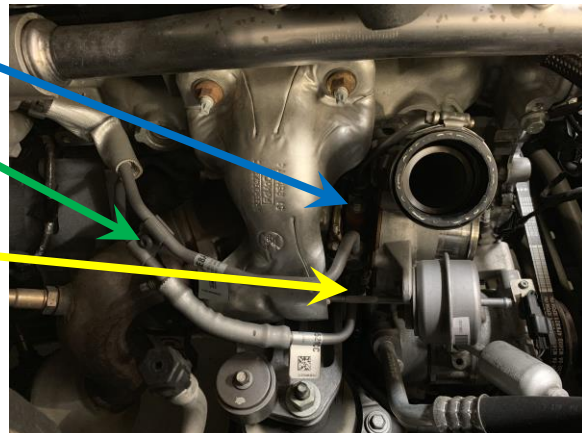

Fig. 9
1. Locate Oil feed line. Loosen and remove bolt. See Fig. 9 (use 8mm socket)
2. Remove water line support bracket. See Fig. 9 (use T35 Torx bit)
3. Locate coolant feed and return lines. Loosen and remove bolt. See Fig. 9 (use 8mm socket)